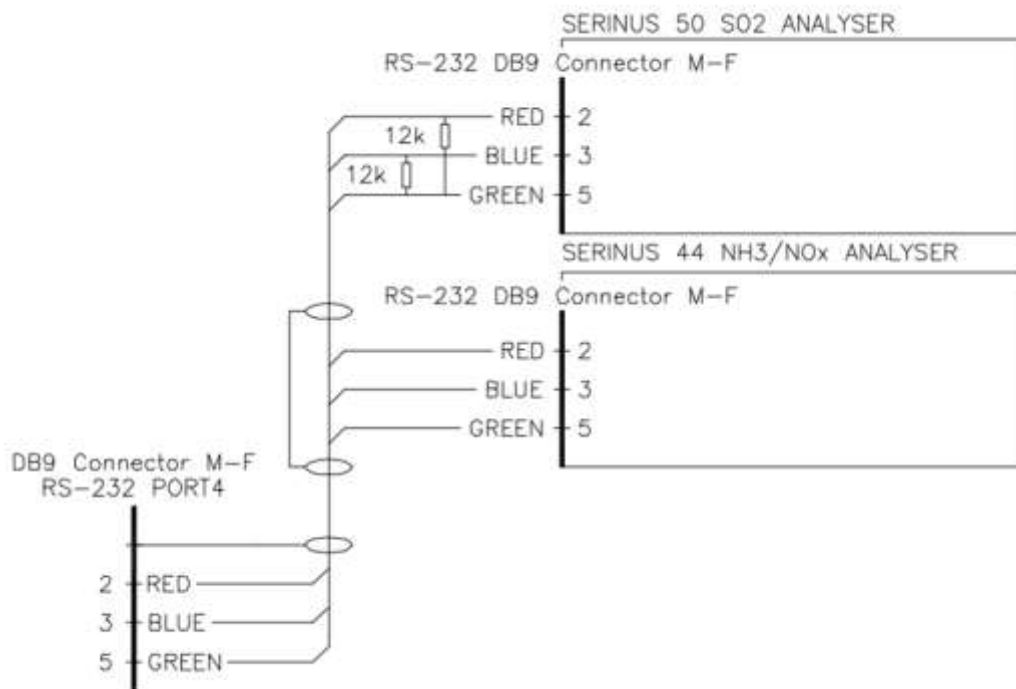

Figure 43 – Multidrop RS232 Cable Example
- A 12K ohm terminating resistor should be placed on the last connector of the cable. (connect from pin 2 to pin 5 and from pin 3 to pin 5) (refer to Figure 43)